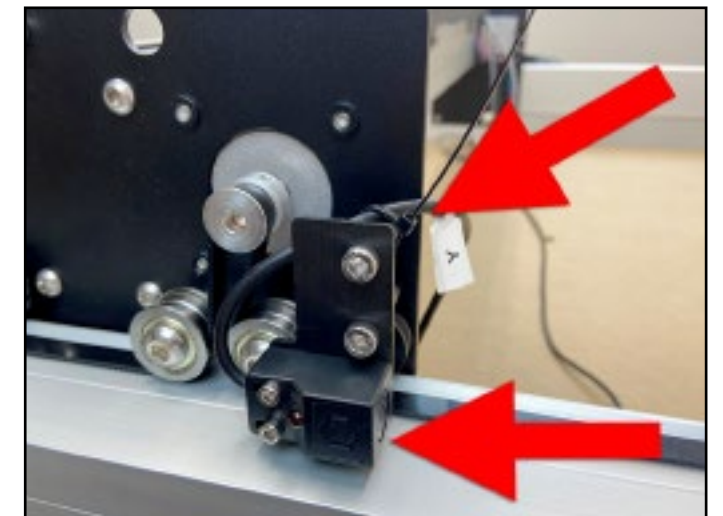

Figure 7-9
6. Use the 4mm hex key and two (2) M5x8mm socket head cap screws to install the mounting plate to the two 30mm standoffs on the **OUTSIDE** of the Y2-rail with the switch to the outside of the plate and facing the rear. See **Figure 7-9**.
7. Use one (1) cable tie to secure the proximity switch cable to the upper standoff. See **Figure 7-9**.